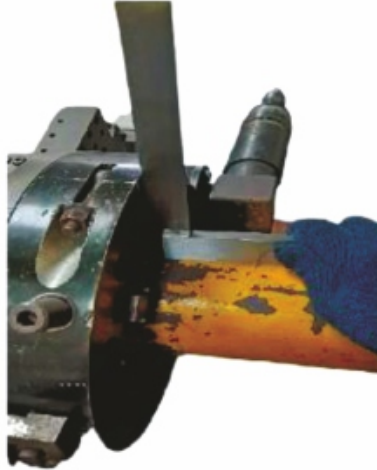

Fig 8. Checking 90o angle
1. **SQUARING:** Place a Square on the back of the machine, directly in line with a locator, hold the square against the housing and the work piece and square the machine to the work piece at all four locations around the pipe (see Figure 8 below).